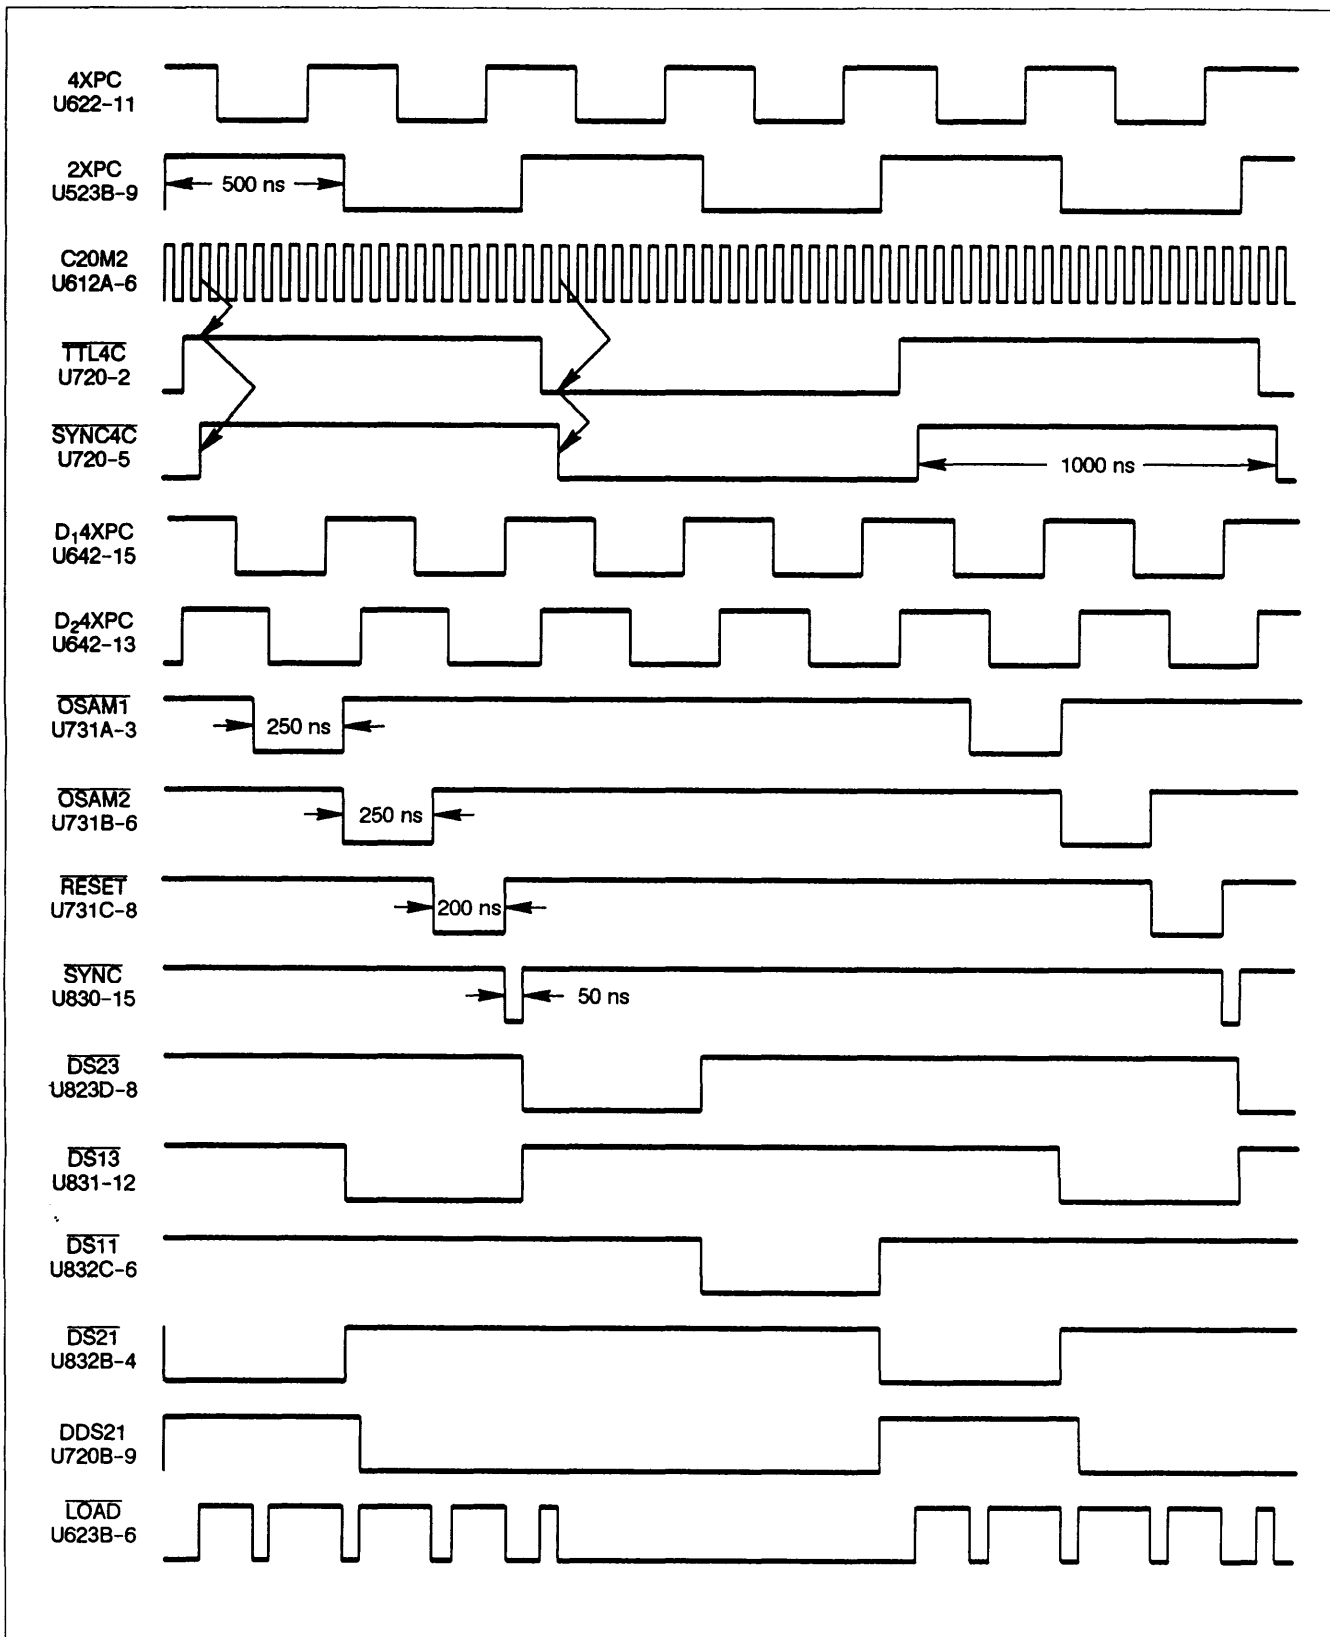

Figure 3-3. System Clock waveforms.
The CCD (charge-couple devices) Output-Sample Clocks stage controls signal transfers from the CH1 and CH2 CCD/Clock Drivers to the external CCD Output circuitry. It consists of a state machine synchronized to the 20 MHz clock (and thus the CCD events) and produces clocks to: (1) move sampled data out of the CH1 CCD/Clock Driver, (2) move sampled data out of the CH2 CCD/Clock Driver, (3) reset both the CH1 and CH2 CCD/Clock Driver output-charge wells in preparation for the next transfer, and (4) phase-lock the CCD-Data Clocks. Fig. 3-3 illustrates the timing of these clocks and other clocks in the System Clocks circuitry; it may be of use in following the discussion of circuit operation.
The CCD Data Clocks  $\overline{\text{DS11}}$ ,  $\overline{\text{DS13}}$ ,  $\overline{\text{DS21}}$ , and  $\overline{\text{DS23}}$ , generated by counter U721, shift register U831, and the associated logic gating, are responsible for multiplexing the four CCD/Clock Driver output levels (CH 1 CCD01, CH 1 CCD03, CH 2 CCD01, and CH 2 CCD03) onto the CCD DATA line for digitization by the A/D Converter. Figure 3-3 (shown previously) illustrates timing of the stage.